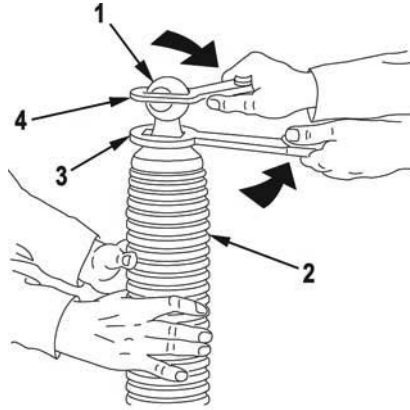

Figure 8. Installation of Breech Plug.
3. Place open end of cannon (Figure 8, Item 2) on flat surface and have one mechanic hold it securely.
4. Screw breech plug (Figure 8, Item 1) onto cannon (Figure 8, Item 2), using barrel wrench (Figure 8, Item 3) and plug wrench (Figure 8, Item 4) as shown. Tighten as much as possible without using extensions or hammering on wrenches.